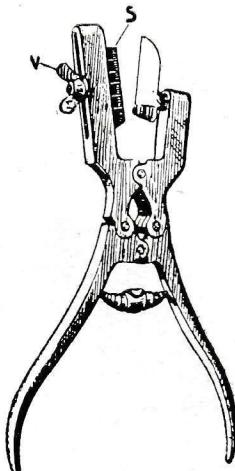

Fig. 28
3) pincers to cut the button holes (fig. 28),
Fig. 28 a
the pincer (fig. 28), with which can be cut holes of a length from mm. 17 to 40.
With this device also button holes with rounded head can be made. The cut on the stuff must be made straightly by using the pincer (fig. 28) so that the blade does not cut in the inferior part say in correspondence with the round head; to obtain this loosen screw V and displace the graduated scale S to the height. The execution of the button holes is the same as for the preceding one.